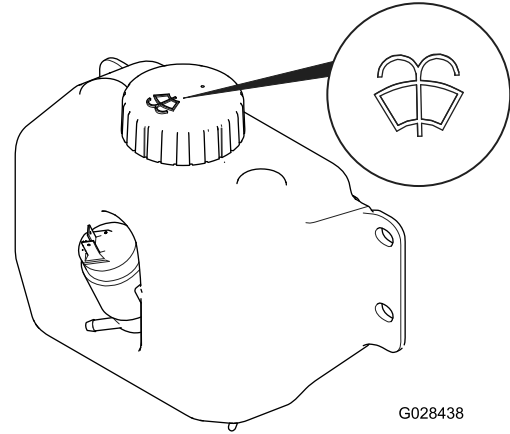

Figure 54
2. Open the hood and locate the washer-fluid bottle (Figure 54).